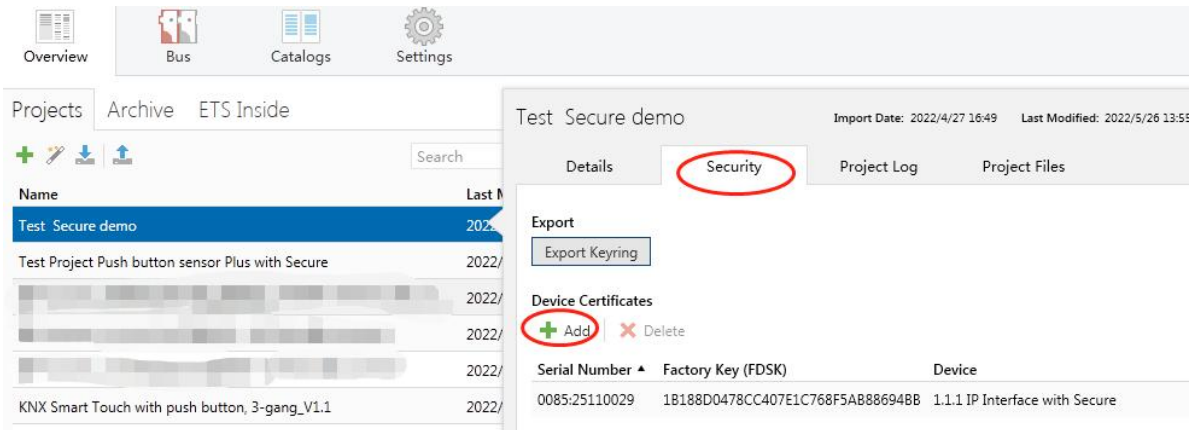

Fig. 4.3.2 Add Device Certificate in overview
- ❖ Alternatively, the certificates of all Secure devices can be entered in the ETS beforehand. This is done on the “Security” tab on the project overview page, as shown in Figure 4.3.2 below.